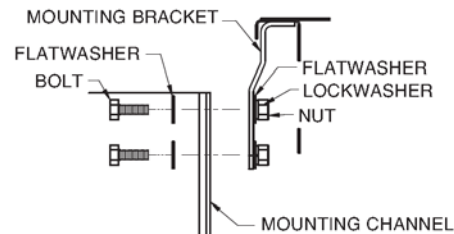

Figure 26
2. At each hole, attached the mounting channel to the bracket using 3/8" hardware as shown in Figure 26.